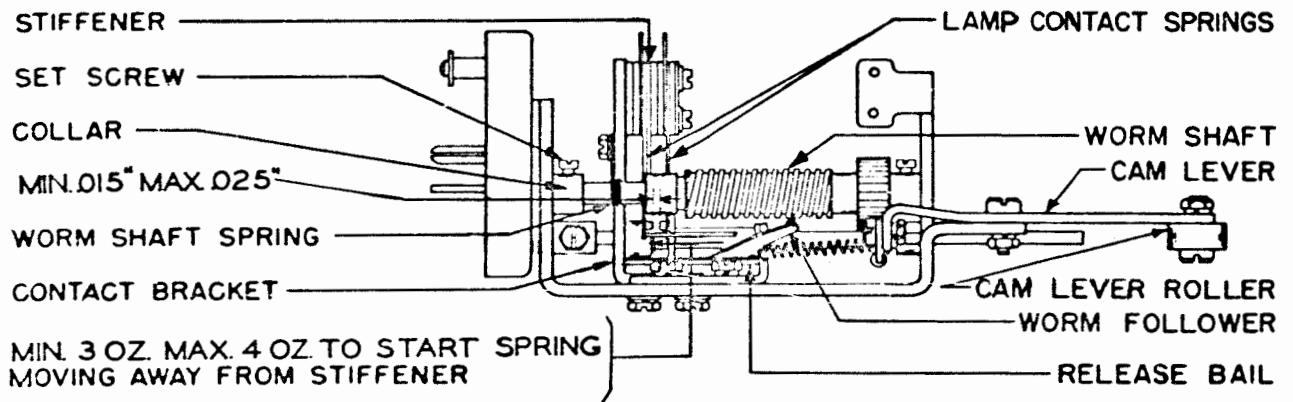

Figure 3
3.01 Worm Shaft: The worm shaft should be free to rotate, with a minimum amount of end-play, when the worm-shaft spring is detached from the contact bracket. (See Figure 3.)
(a) The front lamp-contact spring should press against its stiffener with a pressure of minimum 3 ounces, maximum 4 ounces. (See Figure 3.)
(b) With the front contact spring in the unoperated position, there should be minimum 0.015 inch, maximum 0.025 inch clearance between the front and rear contacts. (See Figure 3.)